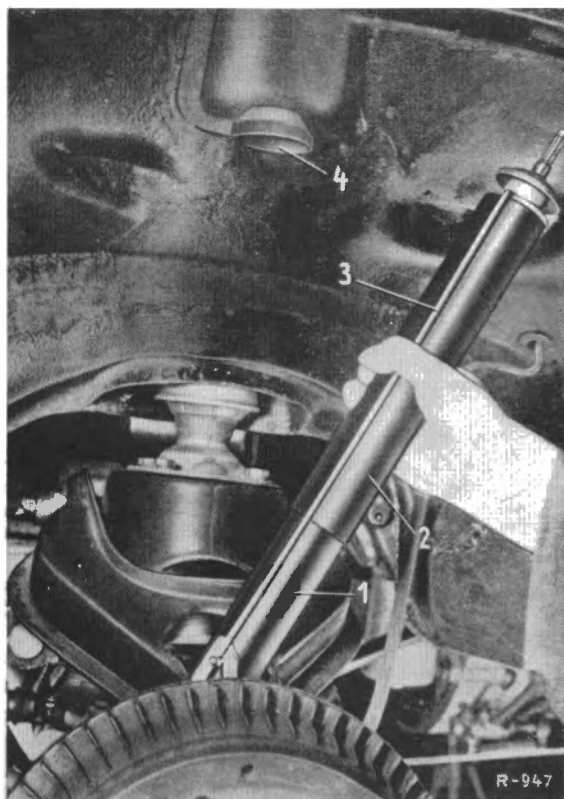

Fig. 32-2/3
5. Before re-installing, check the rubber bearing and the fixing plate of the lower suspension (Figs. 32-2/8 and 9).